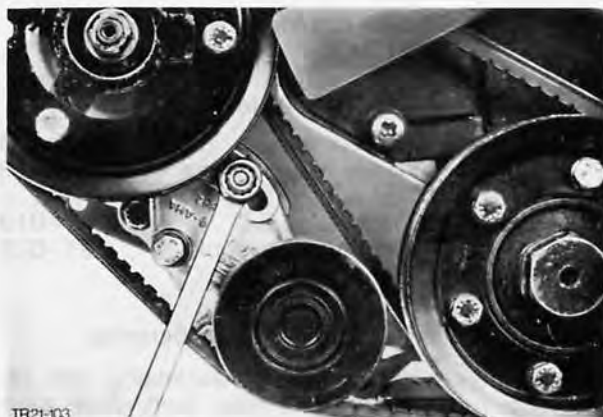

Fig. 142. Slacken vacuum pump V-belt tensioner
8. Slacken vacuum pump (1 bolt, 1 nut) and alternator bracket tensioner (4 bolts) and remove both V-belts, Fig. 142.